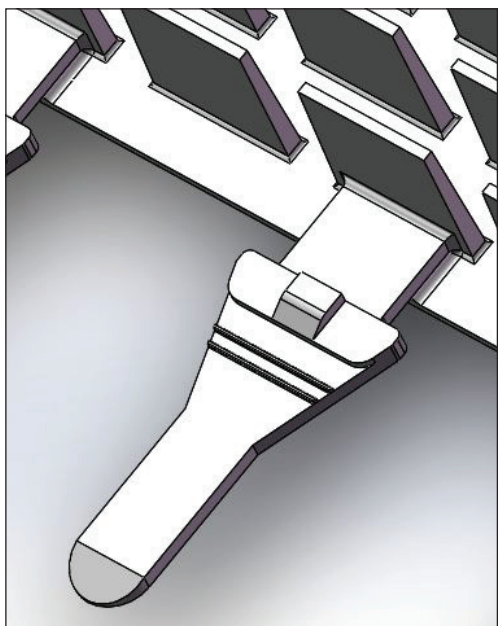

Figure 37. Cut Tabs
5. Use scissors to cut the tabs at the guides, as shown in Figure 37.